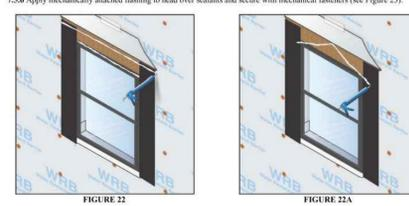

FIGURE 22 FIGURE 22A
7.5.5 Apply a continuous 9 mm (3/8 in) nominal diameter bead of sealant along the head. Apply an additional 9 mm (3/8 in) nominal diameter bead of sealant horizontally 216 mm (8 1/2 in) above the rough opening in line with the top of the jamb flashing (see Figure 22) or as a sloped roof design (see Figure 22A).
7.6.7 Integration between the door frame and the WRB. Use of self-adhering flashing that is designed for continuous integration between the door frame and the WRB is recommended for doors with exterior casing/brick mold (see Figure 22). Alternatively, apply a continuous 9 mm (3/8 in) nominal diameter bead of sealant around the entire perimeter of the exterior casing/brick molding interface with the WRB. The WRB shall be applied so that it is under the exterior casing/brick molding (WRB Wrap Method B per Section 7.2.1.2 is not permitted).